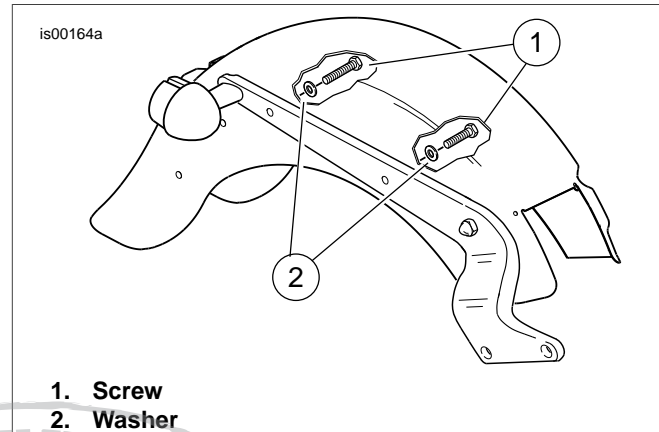

Figure 1. Remove Fender Support Hardware (FLST)
1. See Figure 1. Remove and discard stock screws (1) and washers (2) from fender support.